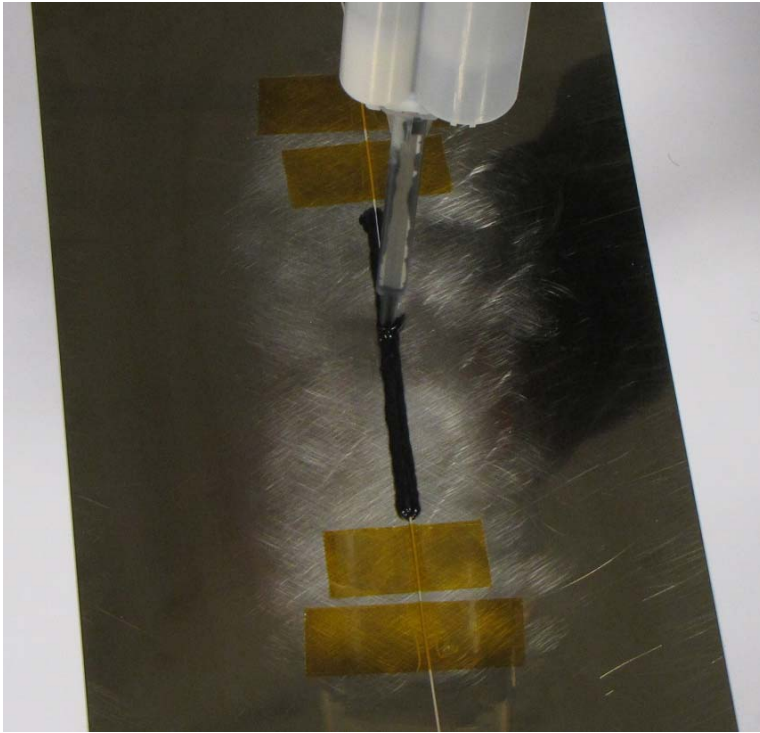

Fig. 2.7: Covering the optical sensor fiber OptiMet-PKF with X120 adhesive
3. Now apply another layer of X120 adhesive over the embedded optical sensor fiber OptiMet-PKF to cover it. To avoid air inclusions, move the mixing nozzle closely over the fiber and vertically to the component surface (Fig. 2.7).